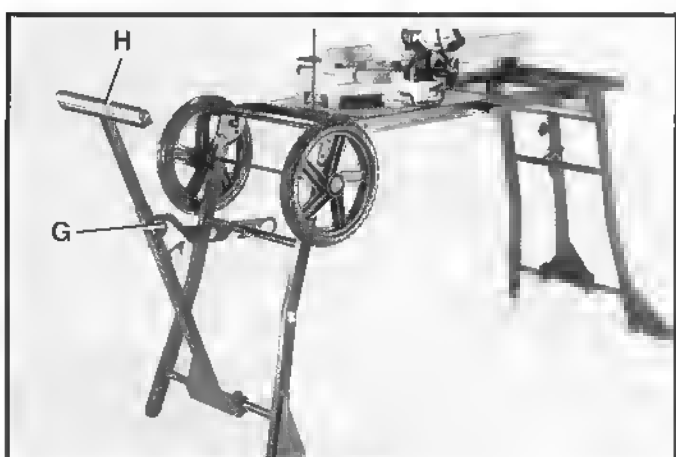

Fig. 48
3. Loosen lock knob (G) Fig. 48, and raise roller (H) to the desired height and tighten knob (G).